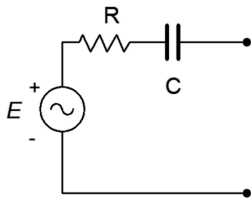

Figure 5.37
63. Design an equivalent current source for Figure 5.37. $E = 12\angle 90^\circ$, $R = 1\text{ k}\Omega$ and $X_C = -j200\ \Omega$. The source frequency is 10 kHz.
64. Design an equivalent current source for Figure 5.37 if $E = 10\angle 0^\circ$, $R = 2.2\text{ k}\Omega$ and $C = 100\text{ nF}$. The source frequency is 1 kHz.